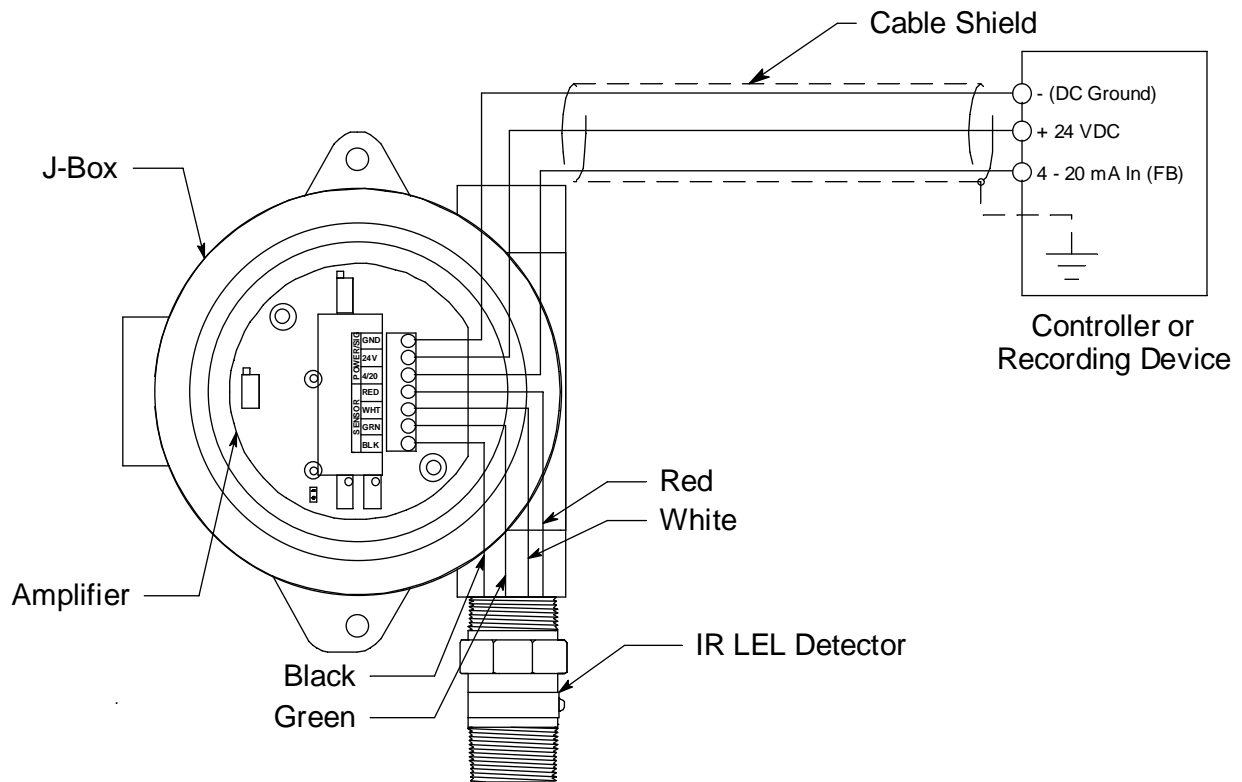

Figure 3: Wiring the Combustible Gas Transmitter to a Controller
4. Verify that the detector leads are wired to the amplifier's interconnect terminal strip. If necessary, connect the detector leads to the interconnect terminal strip as shown in Figure 3.
6. Connect the three wires to the interconnect terminal strip as follows (see Figure 3).
- Connect the feedback wire to the **4-20 (FB)** terminal.
9. Connect the wires to the applicable transmitter terminal strip at the controller as shown in Figure 3 below.
7. Connect the detector leads to the interconnect terminal strip as shown in Table 3 below and Figure 3 on page 6 of this manual.
10. Reconnect the wiring that connects the controller to the combustible gas transmitter at the amplifier's interconnect terminal strip as shown in Table 4 below and Figure 3 on page 6 of this manual.